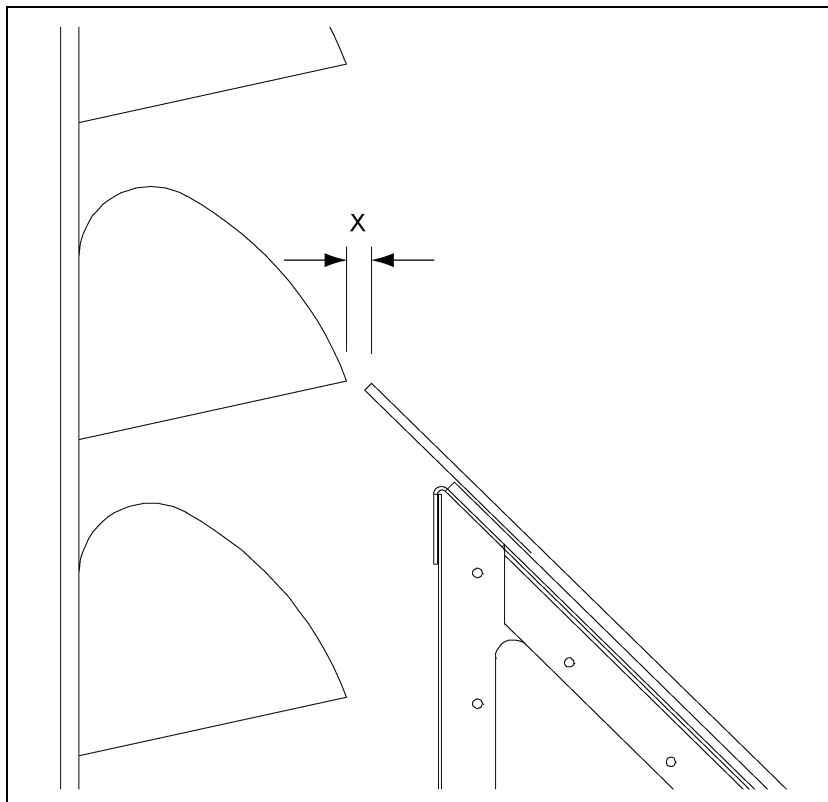

Figure 12A Throat Plate
1. Adjust the throat plate in the head discharge so there is approximately 1/4" clearance between it and edge of the buckets on the lap splice. (See Figure 12A.)